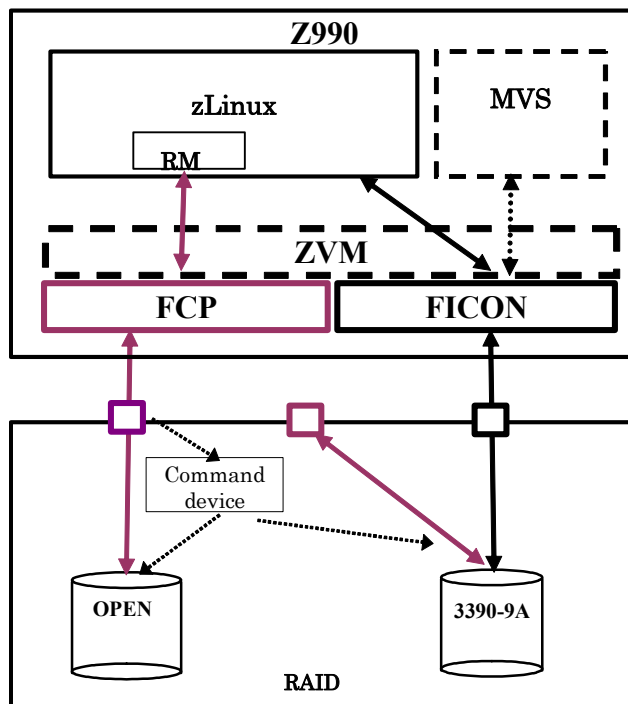

Figure 3.2 Example of a RAID Manager Configuration on zLinux
- **Mainframe (3390-9A) Volumes via FICON.** You cannot control the volumes (3390-9A) that are directly connected to FICON for ShadowImage pair operations. Also, mainframe volumes must be mapped to a CHF port to address target volumes using a command device, as shown in Figure 3.2. The mainframe volume does not have to be connected to an FCP adaptor.